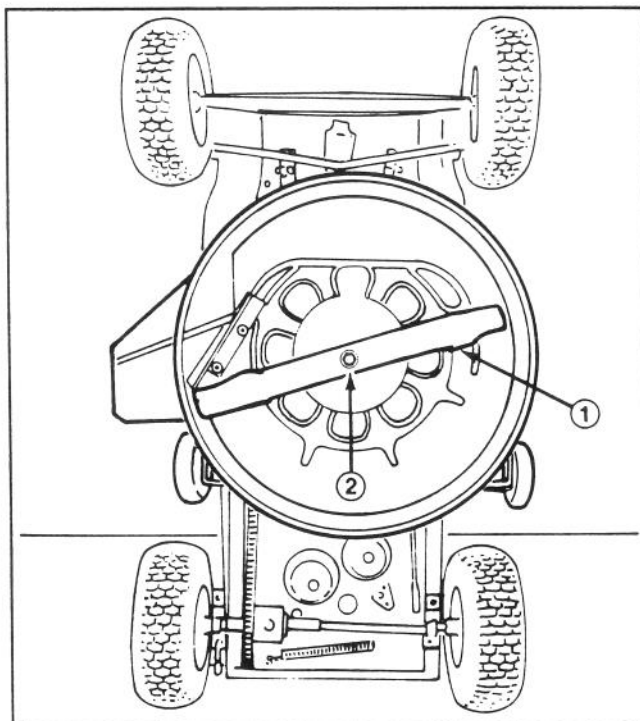

Figure 15
6. Grasp the end of the blade using a cloth or a thickly padded glove. Then remove the blade bolt, washer, and blade (Fig. 15).
9. In sequence, reinstall the blade, washer, and blade bolt (Fig. 15). Tighten the blade bolt to 45–60 ft/lb (61–81 Nm).
6. Remove the grass clippings and dirt that are sticking to the inside of the housing (Fig. 15) by spraying it with a garden hose. Scrape out any grass and dirt that the water does not remove from the housing, then spray the housing again.
7. Since the rider is tipped on end, check the condition of the blade (Fig. 15).